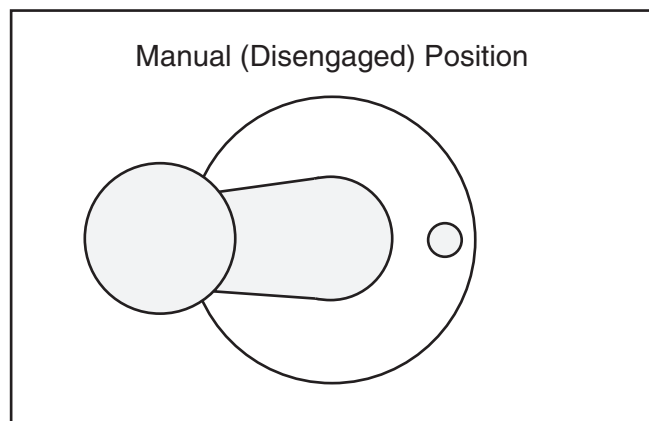

Figure 35. Downfeed selector in manual (disengaged) position.
2. Pull the downfeed selector knob out, then rotate it clockwise until the knob pin seats in the forward manual (disengaged) detent (see **Figure 35**).